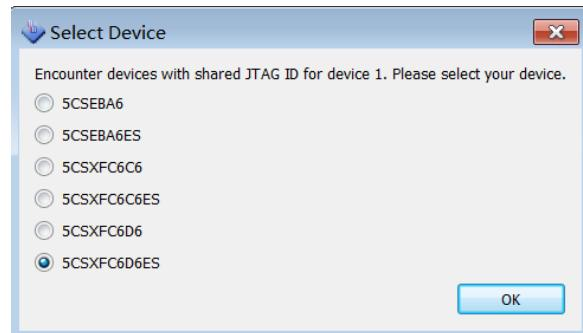

Figure 7-6. Choose device
- ii. Click **Auto Detect and** choose the device, See **Figure 7-6**.